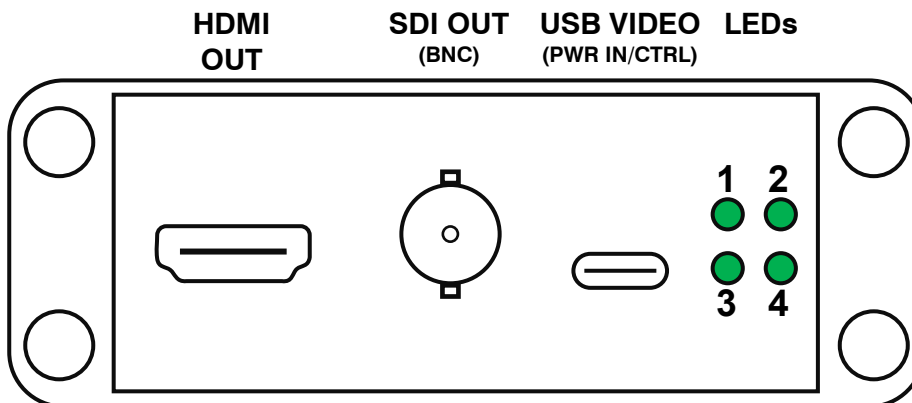

Figure 2. Video output side of housed BlueBird SDI Adapter showing LEDs
- The LED numbering on the silk screen of the issue 01 board is incorrect, the numbering shown in Figure 2 is correct.